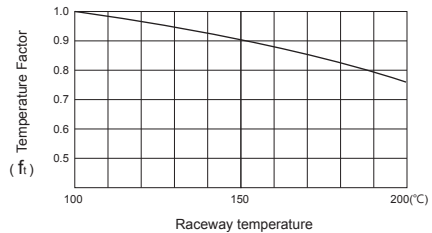

Fig 1.3.3 Temperature Factor (ft)
$f_t$  : Temperature factor (Fig1.3.3)
- ft : temperature factor (Fig 1.3.3)